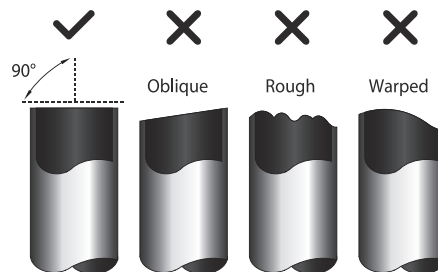

Fig. 5.1
- 3 Make sure that the pipe is cut at a perfect 90° angle. Refer to Fig. 5.1 for bad cut examples.